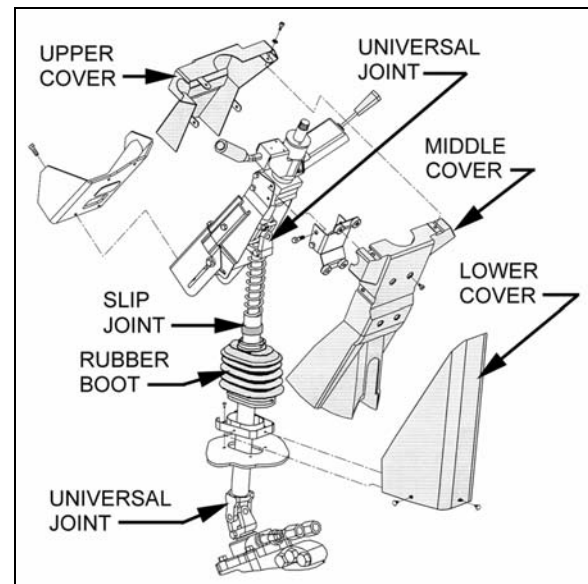

FIGURE 9: STEERING COLUMN COVERS
1. From the front driver's compartment area, remove the three plastic fasteners on steering column lower cover. Remove the lower cover (Fig. 9).
2. Remove the 2 clockspring mounting screws and then remove the clockspring. You will have to disconnect the clockspring harness connector located lower along the steering wheel column. If necessary, remove the steering column covers (Fig. 9).